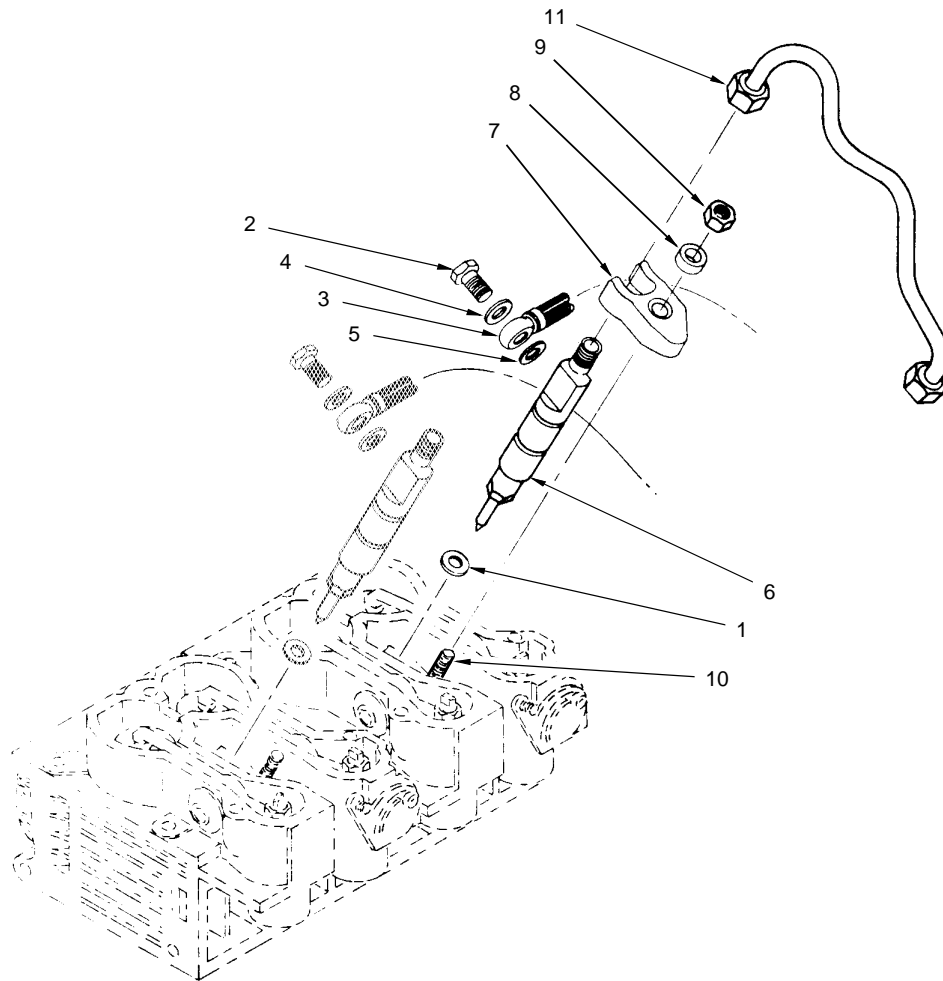

Figure 24. Fuel Injector Installation
**INSTALL FUEL INJECTOR** (Refer to Figure 24.)